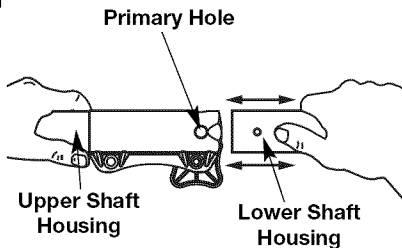
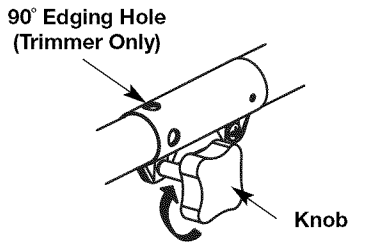

Fig. 6
Fig. 7
1. Turn the knob counterclockwise to loosen (Fig. 7).
3. While firmly holding the upper shaft housing, pull the trimmer attachment or other attachment straight out of the Convertible™ coupler (Fig. 6).
CAUTION: Before operating this unit, be sure that the release button is fully snapped into the primary hole (Fig. 6), and that the knob (Fig. 7) is securely tightened.
1. Turn knob counterclockwise to loosen (Fig. 7).
2. While firmly holding the trimmer attachment or other attachment, push it straight into the Convertible™ coupler until the release button snaps firmly into the primary hole (Fig. 6).
3. Turn the knob clockwise to tighten (Fig. 7).
For decorative edging with the line head trimmer attachment or other attachment, lock the release button of the attachment into the 90° hole (Fig. 7).